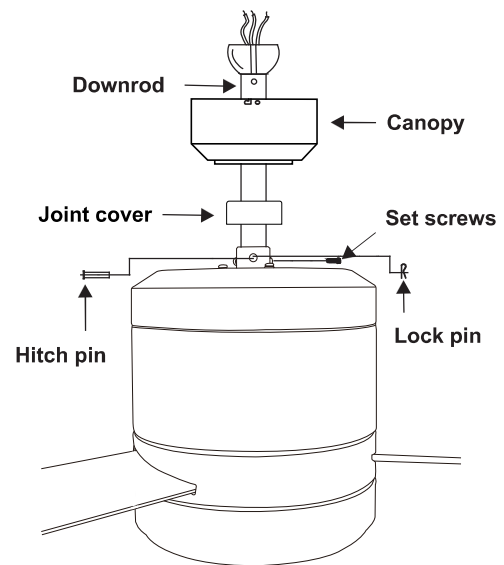

Fig.9
Step 4. Route wires exiting from the top of the fan motor through the canopy and then through the ball/downrod. (Fig.9)
Step 5. Align the holes at the bottom of the downrod with the holes in the collar on top of the motor housing. Carefully insert the hitch pin through the holes in the collar and downrod. Be careful not to jam the pin against the wiring inside the downrod. Insert the locking pin through the hole near the end of the hitch pin until it snaps into its locked position. (Fig.9)